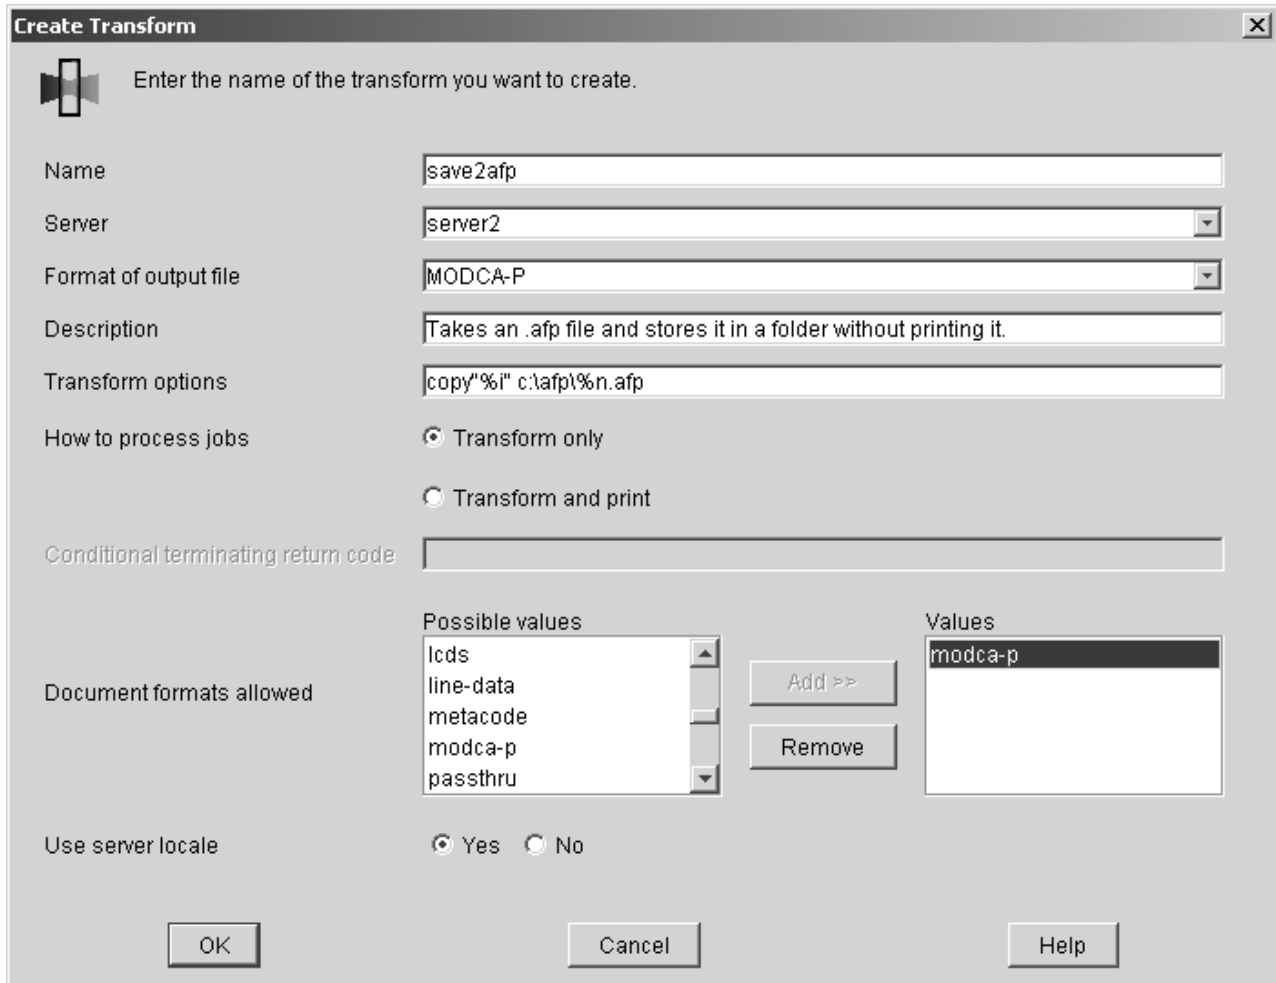
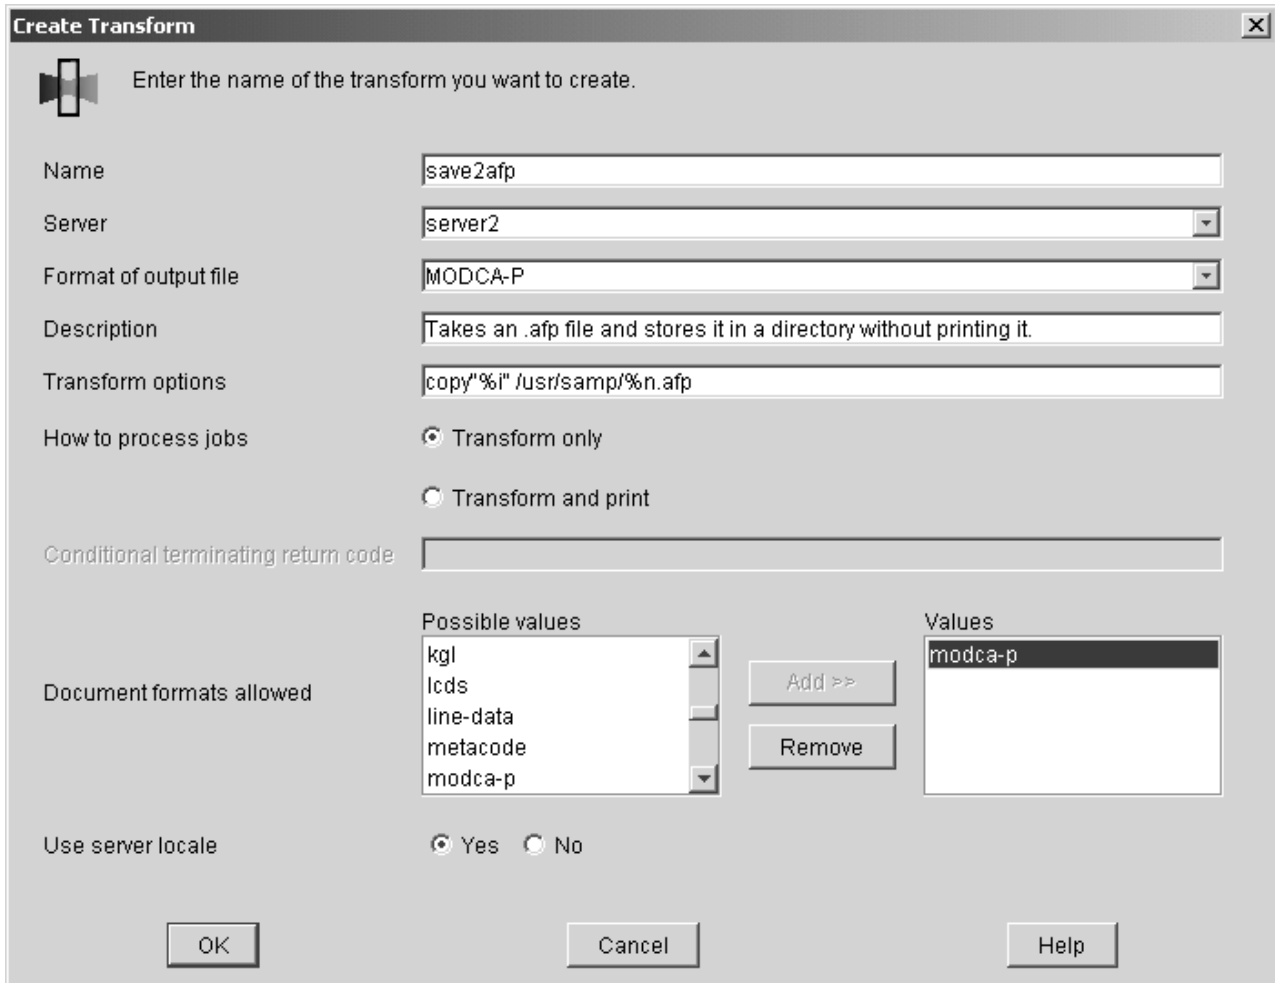

Figure 53. Create Transform dialog: Define a transform that copies an AFP file to a folder without printing on Windows
Figure 54. Create Transform dialog: Define a transform that copies an AFP file to a directory without printing on AIX
3. In the **Create Transform** dialog, fill in the fields as shown in either Figure 53 on page 215 or Figure 54 on page 216, depending upon your operating system. These values create a transform that copies AFP input data to an **\afp** folder on a specific drive on Windows or a **/usr/samp** file system on AIX. Also, it names the transformed file with the name of the original file name because of the **%n** substitution variable.